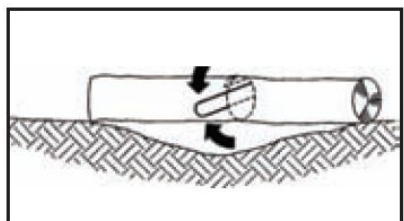

Fig. 4C
3. Log supported on both ends: First, over buck 1/3 diameter of log to avoid splintering. Second, underbuck to meet first cut and avoid pinching (Fig. 4C).